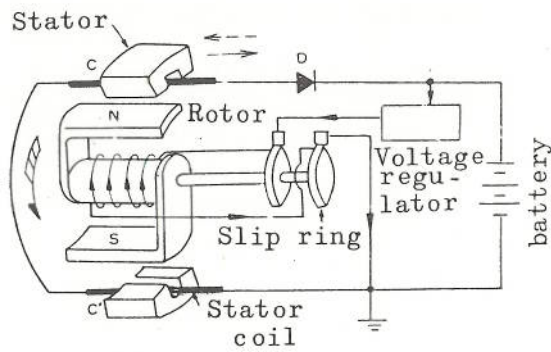
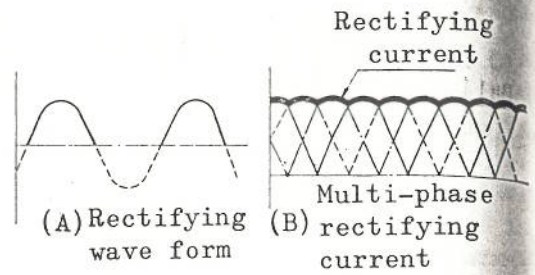

Fig. 10-7
Fig. 10-8
induce the current in the stator coil held statically around the rotor, the operating principle of which is illustrated in Fig. 10-7.
The conductors C. and C' would on the stator are held statically and the rotor, provided with N. and S. is rotated in direction indicated by an arrow marking. As the rotor is turned, the current induced flows through the conductor in a direction indicated by arrow and reaches the battery via the diode. When the rotor is turned half a way, the induced current tends to flow in a counter-clockwise direction as represented by the dotted line in Fig. 10-7-(b) in the conductor, however, it is held from flowing in a reverse direction by the inherent characteristic of the diode and thus, only the rectified current having the waveform of DC current is allowed to reach the battery. The theoretical waveform of which is as illustrated in Fig. 10-8-(a), however, the current generated by the 3-phase alternator is practically rectified into the direct current by the six (6) silicone diodes, the waveform of which is illustrated in Fig. 10-8-(b).